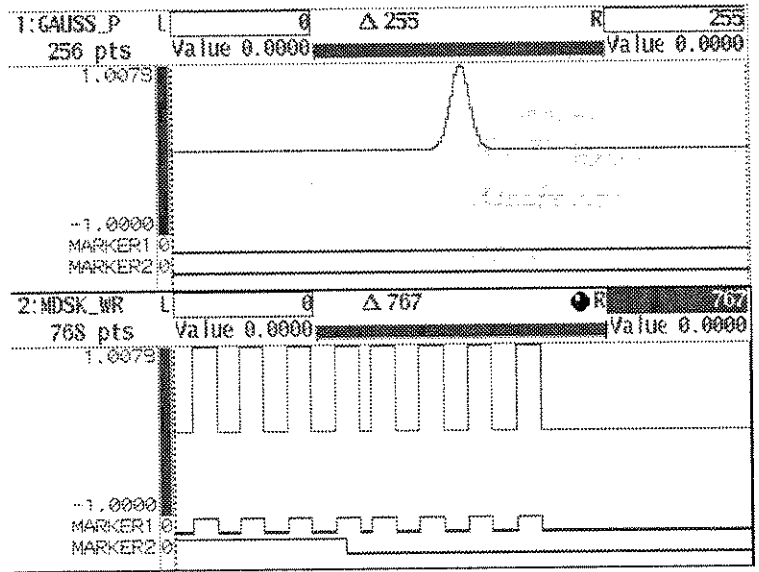

Figure 4A-70: Setting the Area for Convolution
- Step 9:** Using the numeric keys or the general purpose knob, set the positions of the left and right vertical bar cursors to define the section of the waveform for convolution. In this example, we will set the left cursor to point 0 and the right cursor to point 767. Figure 4A-70 shows the two editing areas with the vertical bar cursors in each area marking the section of the waveform to be used for convolution.